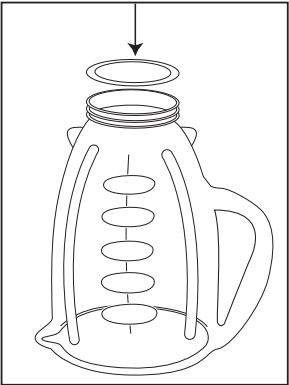

FIGURE 2
- 3. Place sealing ring over jar opening. (Figure 2)